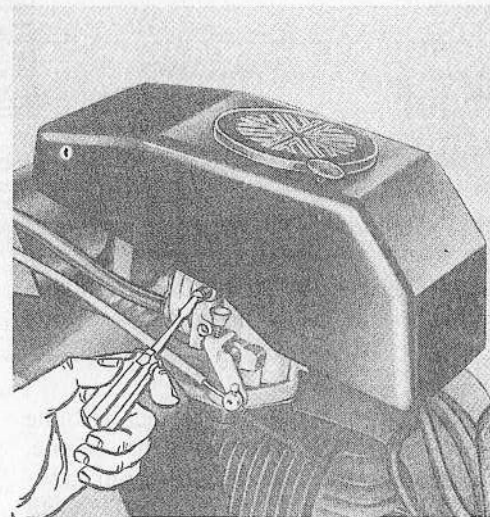

Figure 25
If you remove the air silencer unit, you will clearly see the (3) adjuster screws on the carburetor body. The right hand side screw controls the high speed fuel mixture, while the (2) left hand side screws regulate the idle speed and the amount of fuel fed to the engine at idle speed (idle speed fuel mixture adjustment). See Fig. 25.